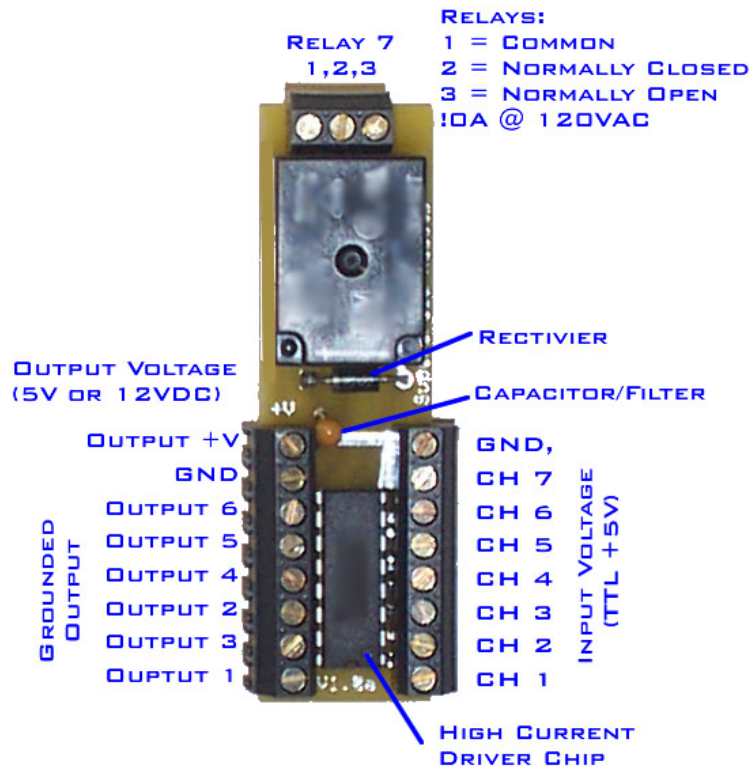

Figure 3: TTL High Current Driver with 1 Power Relay
1. Start by laying the board out in front of you. The Label should be on the bottom middle topside. Refer to Figure 3.
2. Insert the Diode. Orientation of the Diode is important. It will short the circuit if put in the wrong way. The lead that comes out of the side of the diode with a line on it should go in the square pad hole (face towards the left edge of the board as shown in Figure 3).
3. Insert the capacitor as shown in Figure 3. Orientation is not important.
4. Insert the Relay as shown in Figure 3. Push the relay down so it's all flat and start soldering the terminals, checking to make sure the relay stay flat.
5. Install the Screw Terminals (if provided) as shown in Figure 3.
6. Insert the high current driver IC. The orientation is important. The chip will be shorted and will not work if put in wrong. Pin one goes in the square pad hole such that the notch on the chip is closest to the label on the board. Refer to Figure 3.
7. Attach either 12VDC or 5VDC to the Output Voltage using the polarity shown in Figure 3. Turn on the power, no sparks or smoke should appear at this time.